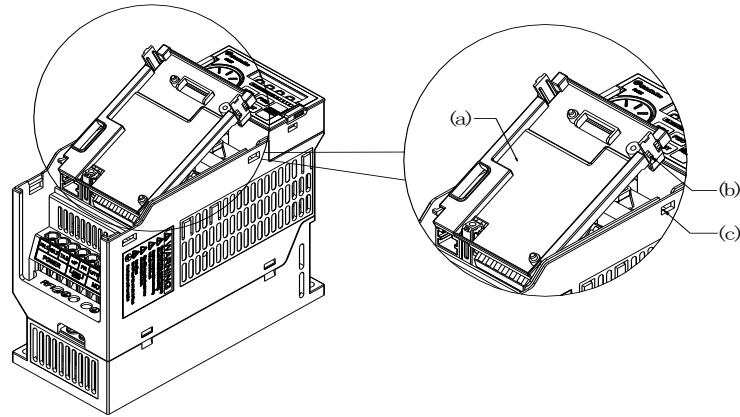

Figure 1
Step 3 : Use the front rear as support and slide (a) in by pressing down as figure 1 shown. °